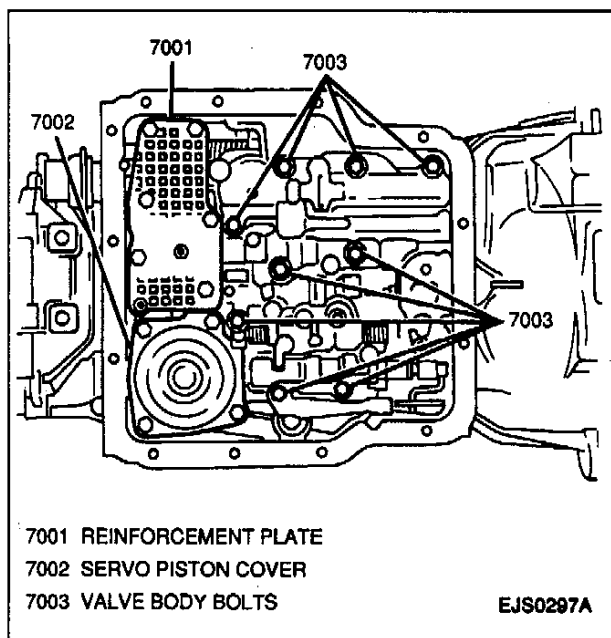

Figure 38—Reinforcement Plate, Servo Piston Cover and Valve Body Bolts (3L30, 3-Speed)
9. Six bolts and reinforcement plate from transmission (Figure 38).
10. Four bolts, servo piston cover and gasket from transmission (Figure 38).
11. Nine valve body bolts, manual detent roller, valve body, transfer plate, transfer plate gaskets and one check ball from transmission case (Figure 38).
- 13. Reinforcement plate onto transmission case; secure with six bolts (Figure 38).